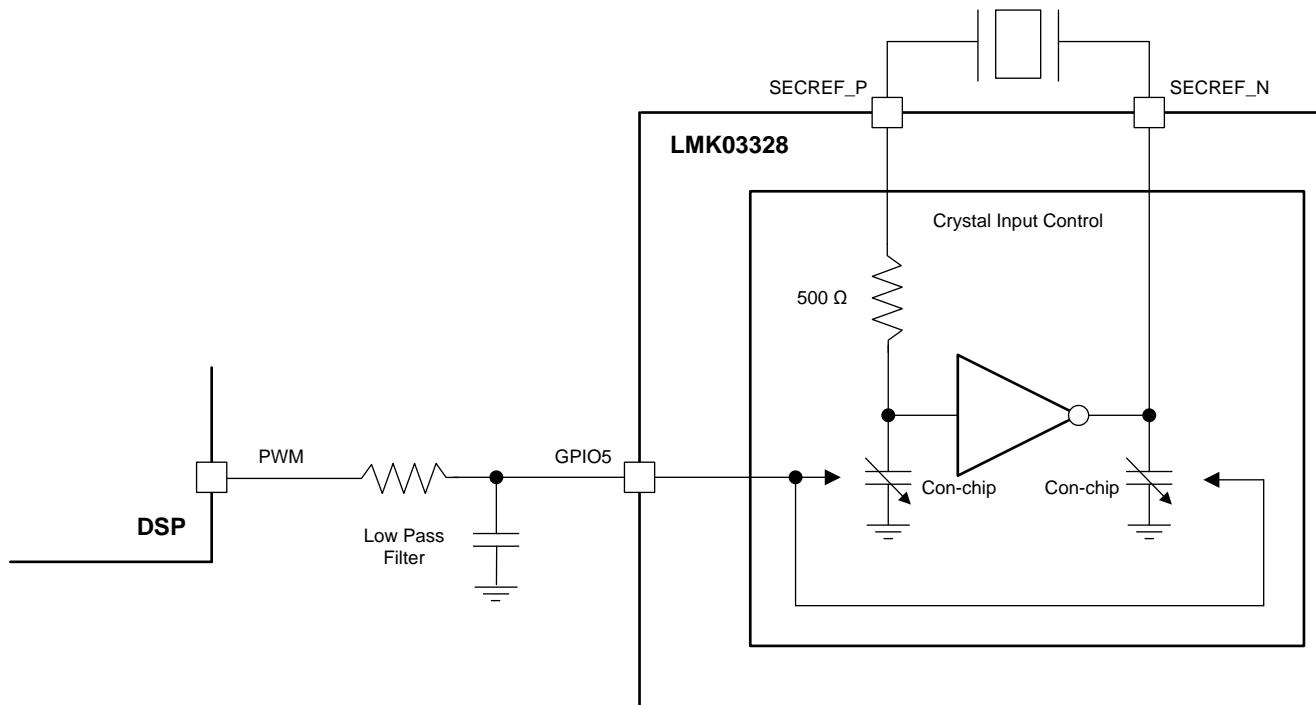

Figure 57. Crystal Load Capacitance Compensation Using PWM Signal
- The second method is using a low-pass filtered PWM signal to drive the 8-level GPIO5 pin as shown in Figure 57. The PWM signal could be generated from the frequency difference between a highly stable TCXO and the output of LMK03328 that is provided as a feedback into the GPIO5 pin and used to adjust the on-chip load capacitance on the crystal input in order to reduce frequency errors from the crystal. This is a quick alternative that produces a frequency error at the LMK03328's output and could be acceptable to any application when compared to a full-characterization with a chosen crystal to understand the exact load pulling required to minimize frequency error at the LMK03328's output. More details on frequency margining are provided in the "Application Information" section.